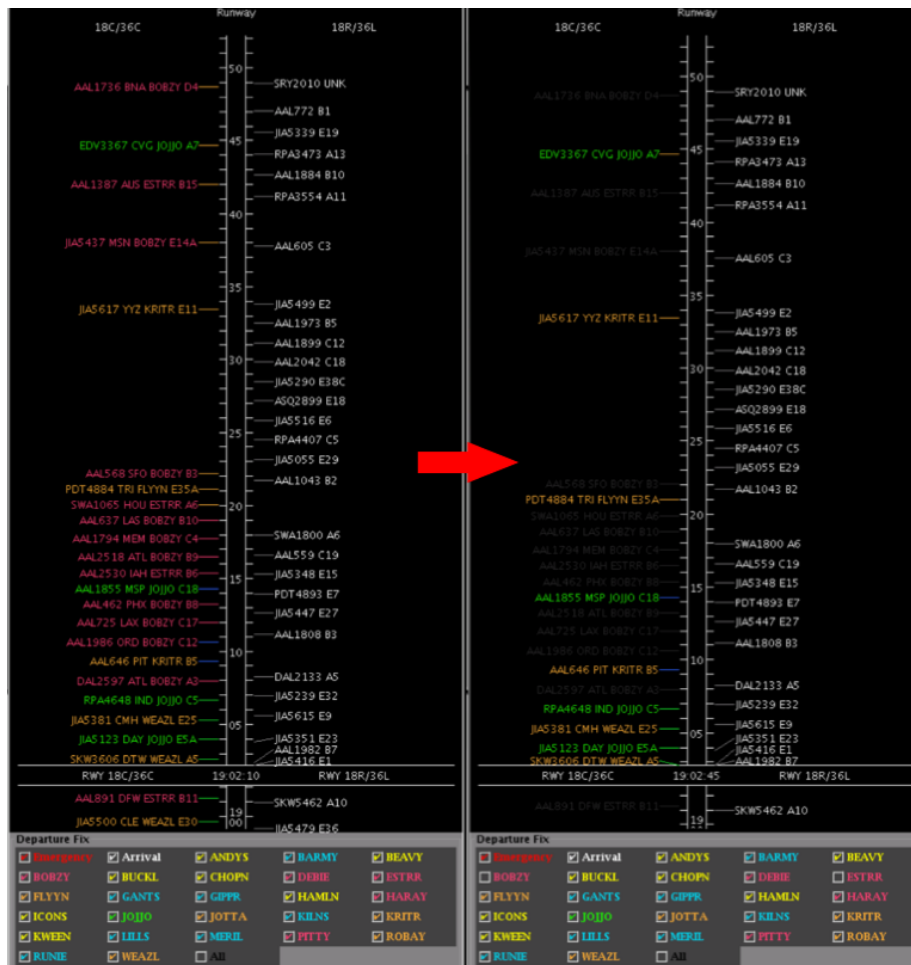

Figure 17. Deselecting items on the Timeline legend.
**Step 2:** Click the “Ok” button. The legend will display at the bottom of the Timeline (Figure 17).
The items in the legend will be displayed in the same color scheme as they are displayed on the Timeline (Figure 17). For example, the “BOBZY” label is displayed in dark pink, like the BOBZY Timeline datablocks, while the “JOJJO” label is displayed in green, like JOJJO Timeline datablocks.